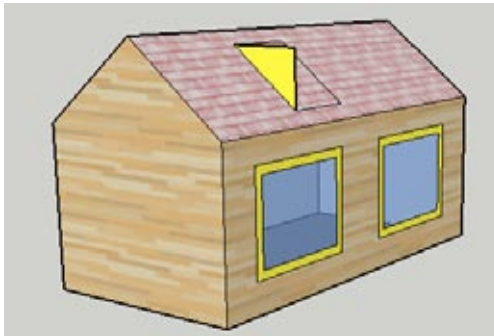

Figure 5-17
4. Click to finish the line and then add the horizontal edge to complete the triangle (Figure 5-17). This is the side of the dormer.